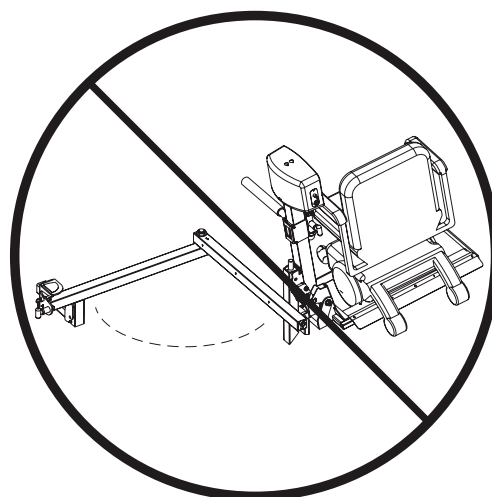

Figure 3-7
*NEVER open the Swing-Away with the mobility device on the lift. Opening the Swing-Away with the mobility device on the lift will damage the Swing-Away and the lift and will potentially damage the vehicle and the mobility device. Any of these actions will VOID the warranty. See Figure 3-7.*